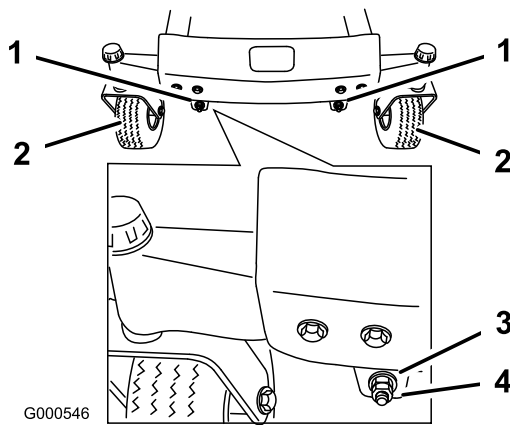
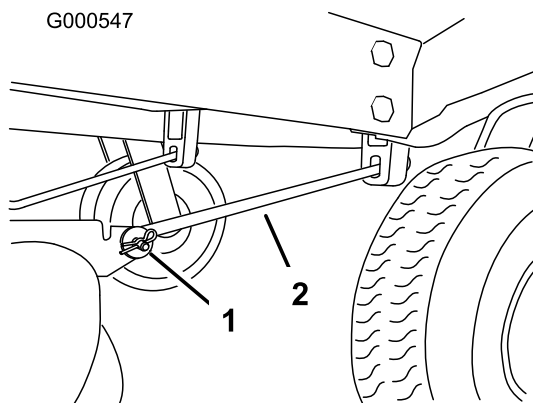

Figure 56
Figure 57
11. To adjust the front-to-rear blade slope, remove the locknuts and then rotate the adjustment nuts in the front of the mower (Figure 56).
13. After adjusting both adjustment nuts evenly, check the front-to-rear slope again. Continue adjusting the nuts until the front blade tip is 1/16-5/16 inch (1.6-7.9 mm) lower than the rear blade tip (Figure 56).
Note: After adjusting the adjustment nuts, make sure there is no slack in either support rod (Figure 57). Tighten either one to remove the slack (Figure 56).
- Remove the hairpin cotter and clevis pin from the front support rod on each side of the mower (Figure 57).
8. Attach the front support rods to the machine with the clevis pins and hairpin cottes (Figure 57).